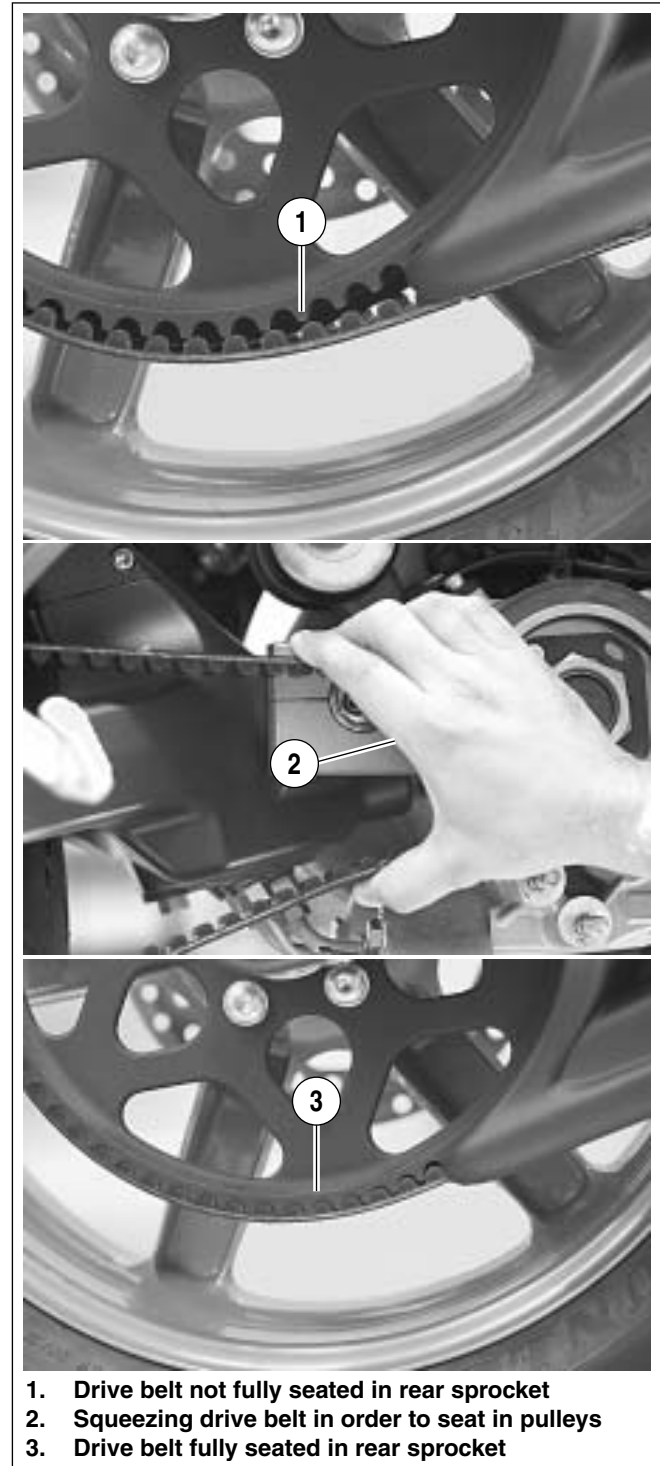

Figure 6-43. Seating Drive Belt Into Pulley Teeth
See Figure 6-43. Occasionally the drive belt is not fully seated in rear sprocket making it difficult to install the idler pulley. It will be necessary to follow the outlined procedure in order to easily install idler pulley.
6. See Figure 6-43. Grasp top and bottom of drive belt and squeeze together until belt teeth are fully seated in rear sprocket.